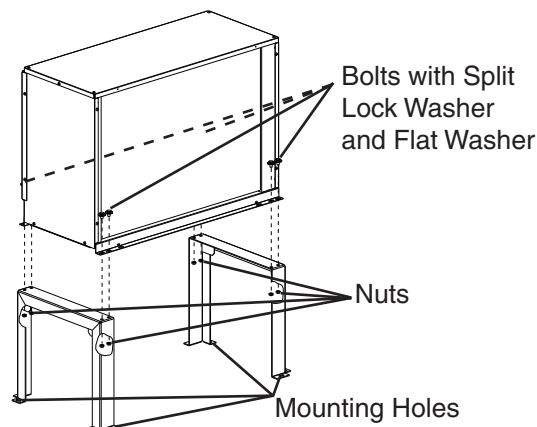

Fig. 7
- 1) Secure the legs to the remote condenser unit with the 8 bolts and nuts provided. See Fig. 7.